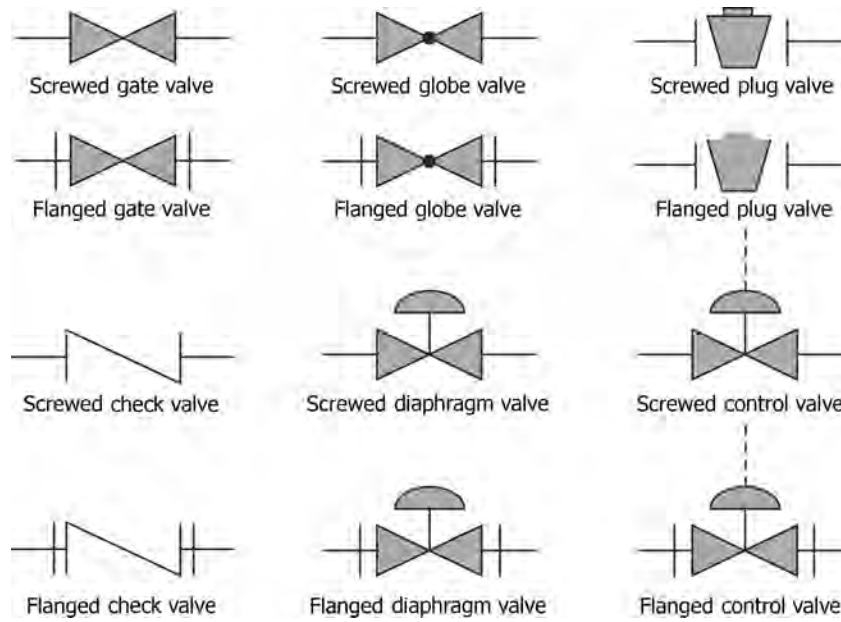

FIGURE 3.14 Symbols for some common types of valves.
- Symbols of some commonly used valves are given in Figure 3.14.